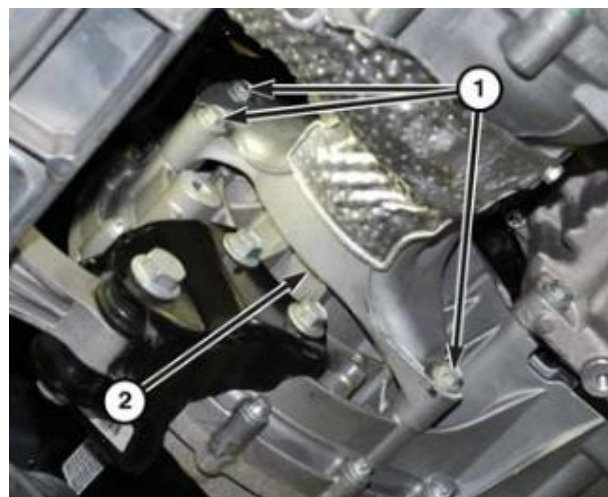

Figure 38 – PTU to Transmission Fasteners
3. Install the fasteners (1) to hold the PTU (2) to the transmission and tighten to 48 N·m (35 ft. lbs.) (Figure 38).
6. Install the fasteners (1) to hold the PTU mount bracket (2) to the engine block and oil pan, then tighten to 44 N·m (32 ft. lbs.) (Figure 38).